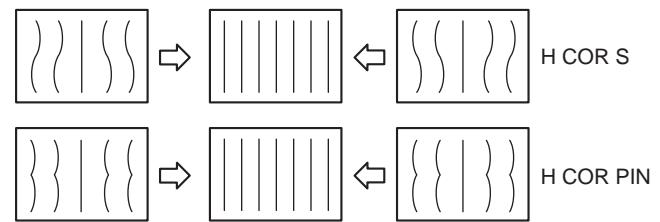

Fig. 1-11
11. Adjust the corner "S" distortion and the corner PIN distortion on both sides of picture using the H CORS and H COR PIN data respectively as shown in Fig. 1-11.
12. Repeat the above-described steps of the linearity adjustment(2) until the optimum horizontal linearity and vertical linearity are obtained.